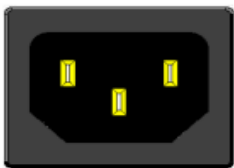

Figure 3-5
All connections to the recorder are made to the Rear Terminal Panel. Any wiring carrying hazardous voltages must conform to all applicable local and national safety codes. AC Mains connection is via an internationally accepted IEC 320 AC mains connector or screw terminal (Figure 3-5 and Figure 3-6).
Figure 3-5 shows the IEC 320 AC mains connector on the rear of the recorder. The center pin is the ground termination. If a mating plug is provided, it will be marked with the Ground, LINE (L) or hot, and NEUTRAL (N) or return. In the United States, an approved cable with integral plug (NEMA 5-15 P) is provided. In some instances, a cable with no plug may be provided. In this instance, the user must connect an approved plug to the cable prior to connecting to the AC source.